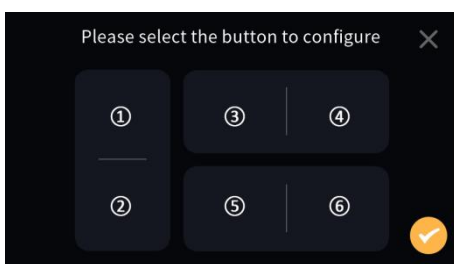

图 2.3.18
2.For relative dimming and brightness dimming function, the button configuration is shown as Fig.2.3.18, you can select ^①^② or ^③^④ or ^⑤^⑥. There is distinction for the shortcut operation between short and long operation, short press the button ^①/^③/^⑤ to turn on the lamp, and long press to brighter the brightness. Short press the button ^②/^④/^⑥ to turn off the lamp, and long press to darker the brightness.
6.For curtain function, the button configuration is shown as Fig.2.3.18, you can select ①② or ③④ or ⑤⑥. There is distinction for the shortcut operation between short and long operation, long press the button ①/③/⑤ to open the curtain, long press the button ②/④/⑥ to close the curtain; short press the buttons all to stop the curtain running.